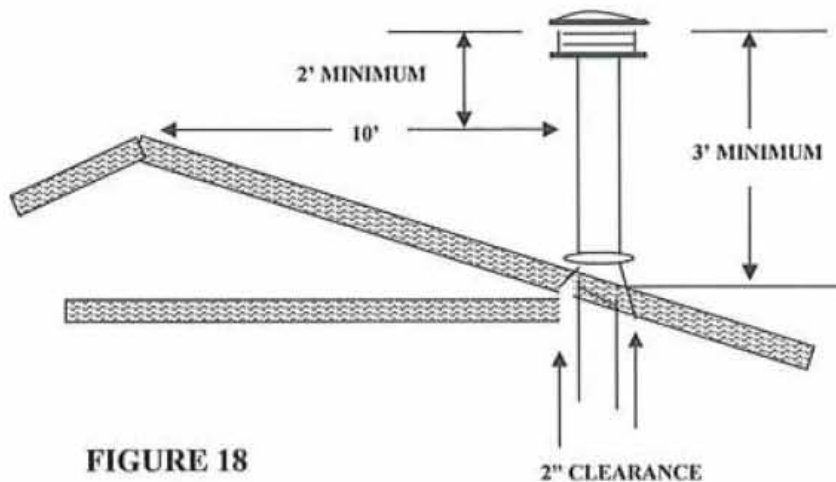

FIGURE 18
- ✓ The chimney must extend at least 3' (915 mm) above its point of contact with the roof and at least 2' (610 mm) higher than any wall, roof or building within 10' (3000 mm) of it (SEE FIGURE 18).